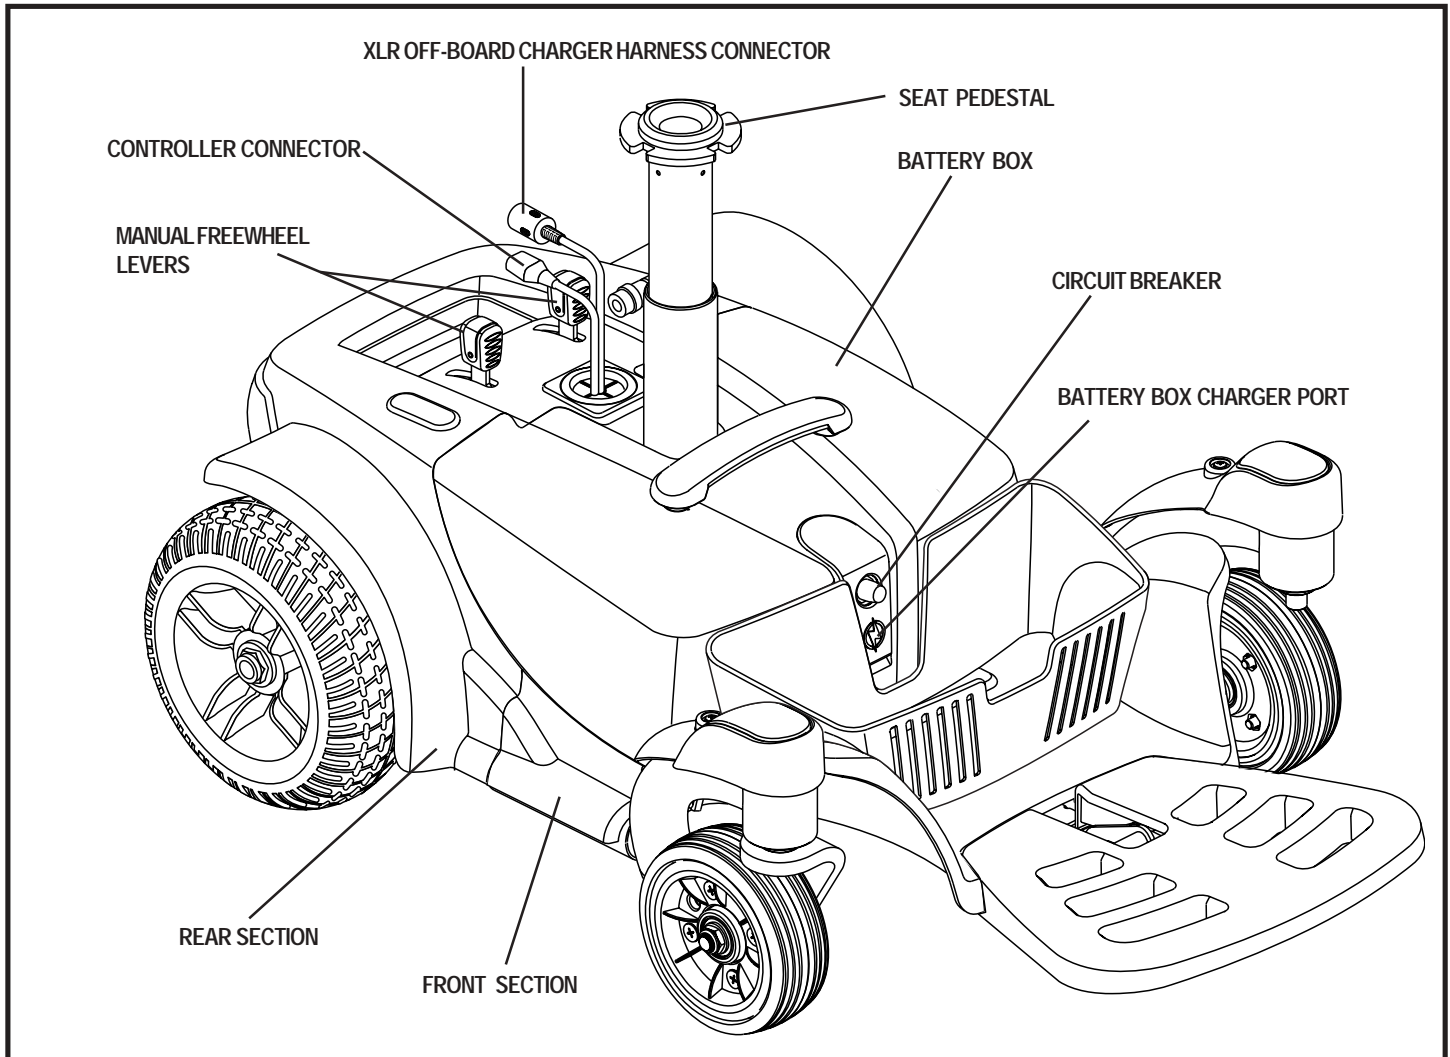

Figure 6. The Z-Chair Power Base
The electrical components are located on the power base. The main circuit breaker is located on the front of the battery box. The controller connector is located on the back of the power base. See figure 6.
4. Plug the controller connector and XLR off-board charger harness into the power base. See figure 6.
7. Install the seat and plug the controller connector and XLR connector into the power base. See figure 6.